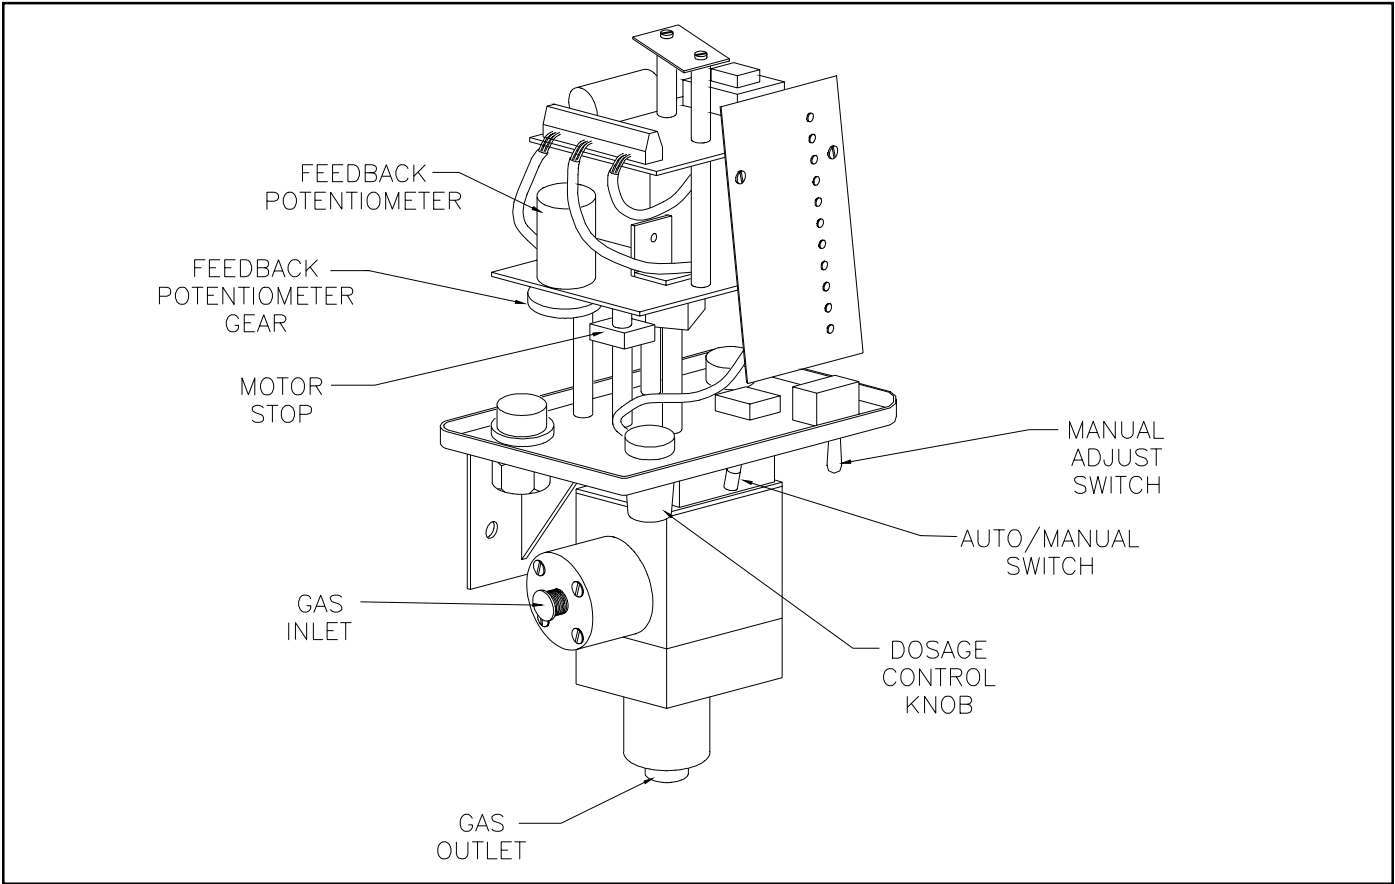

Figure 6 - Automatic Valve Less Cover
Manual operation is used in the event of a loss of input signal or manual override. Refer to Figure 6. For manual operation, proceed as follows:
3.4.2 Bottom Stop Adjustment (Zero Flow) - Refer to Figures 6 and 7.
3.4.3 Full Scale (Maximum Flow) Stop Adjustment - Refer to Figure 6.
- d. For FZ (Flow Zero) adjustment, connect an electrical signal source across FLOW + and - input terminals. If process flow signal is not available, connect 1K potentiometer according to Figure 6.
- 4.2.3 Loosen the socket set screw in the feedback potentiometer gear using 0.05" Allen wrench, and slide the gear off the shaft. Refer to Figure 6.